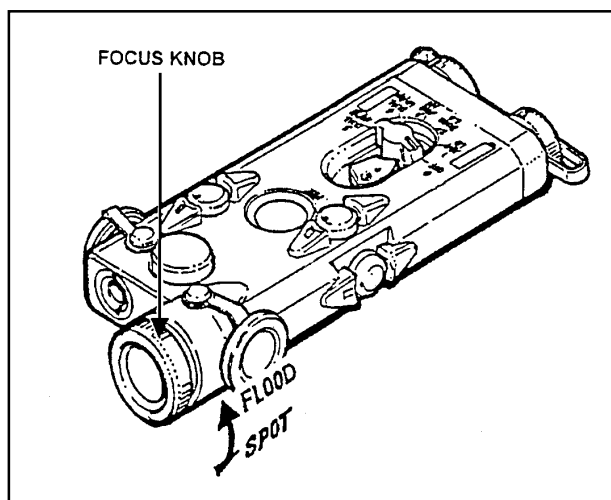

Figure G-15. Using the focus knob.
f. **Focus Knob** (Figure G-15). The focus knob is used to vary the spread of the illumination beam based on the range and size of the area to be illuminated.